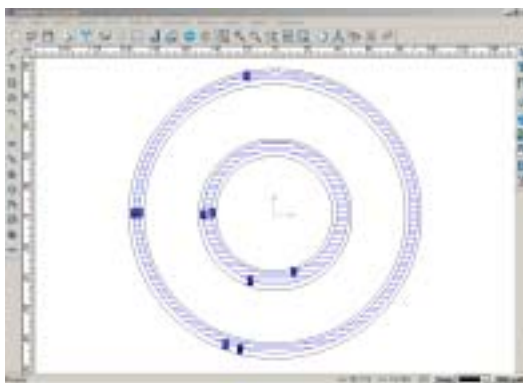

Fig. 10-62
2. Then the tool path is marked by numbers. (Fig. 10-62)